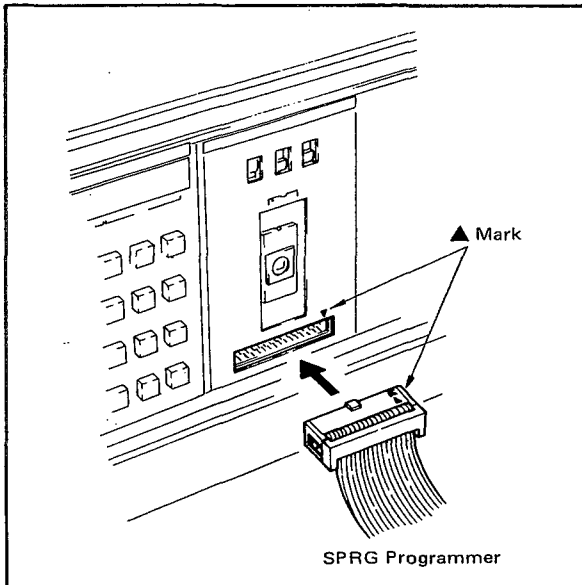

Figure 3-2-1. Connection to SLPC, SLMC or SCMS.
Refer to Figure 3-2-1.
- (1) Withdraw the SLPC, SLMC, or SCMS from its housing until it stops at the "service" position. Remove the side cover to access the "programmer" socket (see Figure 3-2-1).
- (2) Insert the SPRG programmer cable connector in the SLPC, SLMC, or SCMS socket so the two marks (▲) coincide.